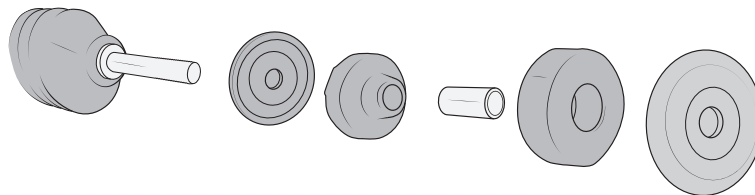

Figure 30
10. Assemble the shock bushings as shown (fig. 30) then install AEV shocks.